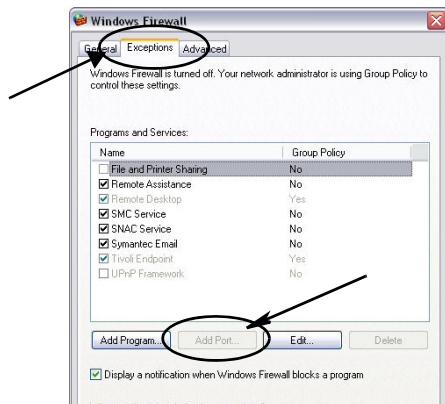

FIG. 31
2. If not already selected, click “Exceptions Tab to display contents (FIG. 31).
3. Click “Add Port” button (FIG. 31).